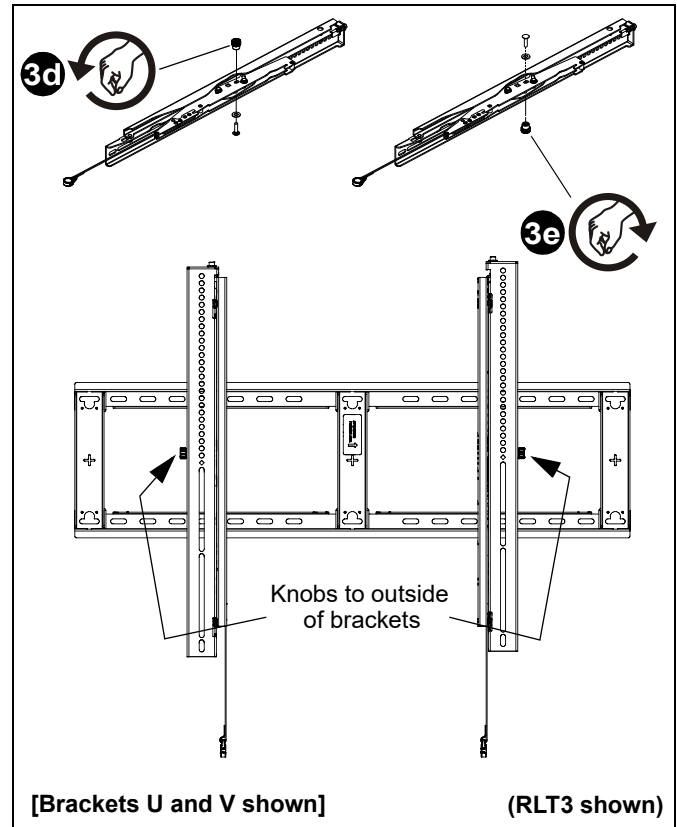

Figure 12
- If necessary, the tilt interface bracket knobs may be switched to allow the interface brackets (U and V) to be reversed. (See Figure 12)